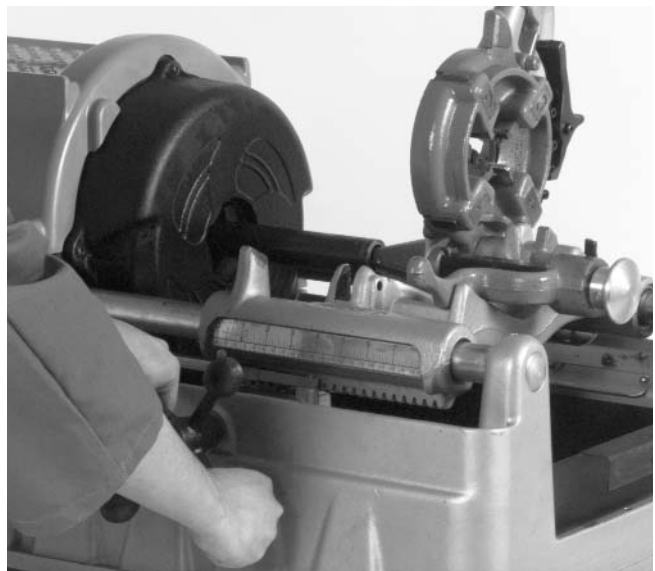

Figure 6 – Reaming with 341 Reamer
4. Position reamer into pipe and complete reaming by exerting pressure on handwheel. (Figure 6)